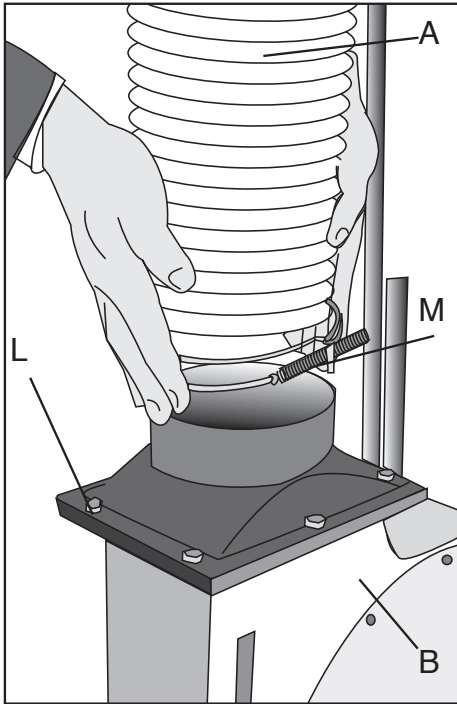

Fig. 8
Now attach one end of the hose (A) to the outlet (L) and the other end to the side hole of the collector rim and secure with the two hose clamps (M) as shown in Fig. 8, Fig. 9, and Fig. 10.